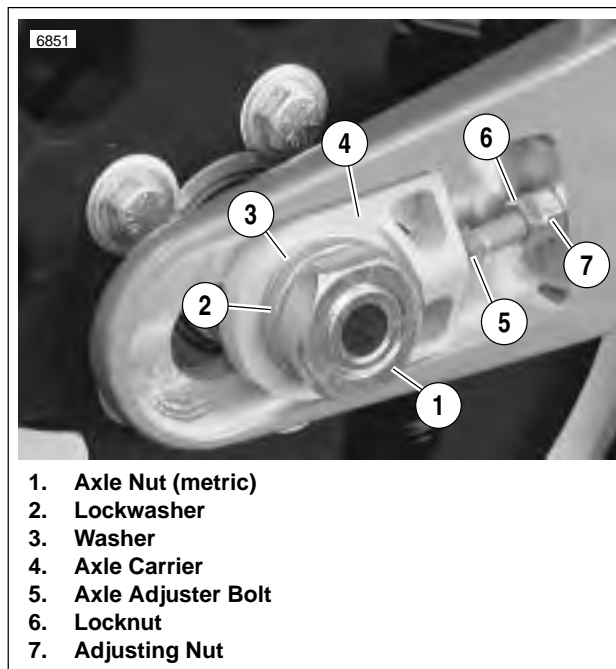

Figure 2-60. Rear Axle, Right Side
7. See Figure 2-60. Remove rear wheel. See 2.6 REAR WHEEL.